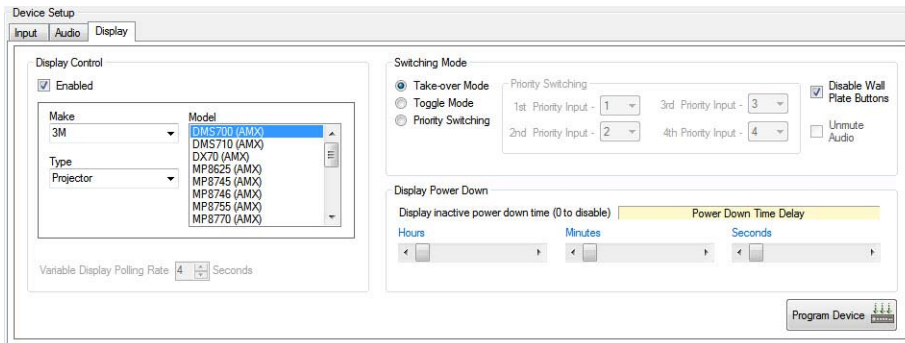

FIG. 29 Device Setup - Display Tab
The Display tab (FIG. 29) enables you to select a display output and establish input display settings.
1. In the Device Setup area, click the **Display** tab (FIG. 29).